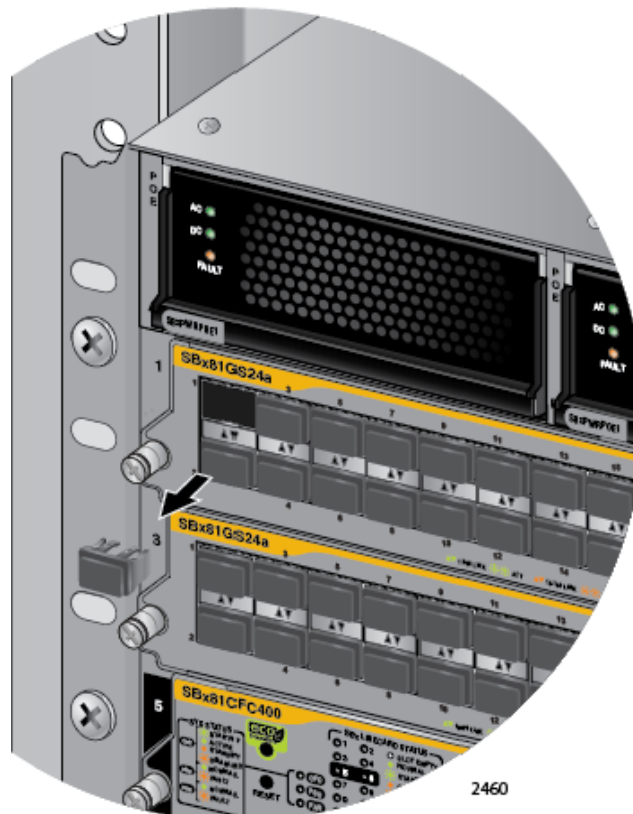

Figure 80. Removing the Dust Cover from an SFP Slot in the AT-SBx81GS24a Line Card
2. Remove the dust cover from the SFP slot chosen for the transceiver, as shown in Figure 80.